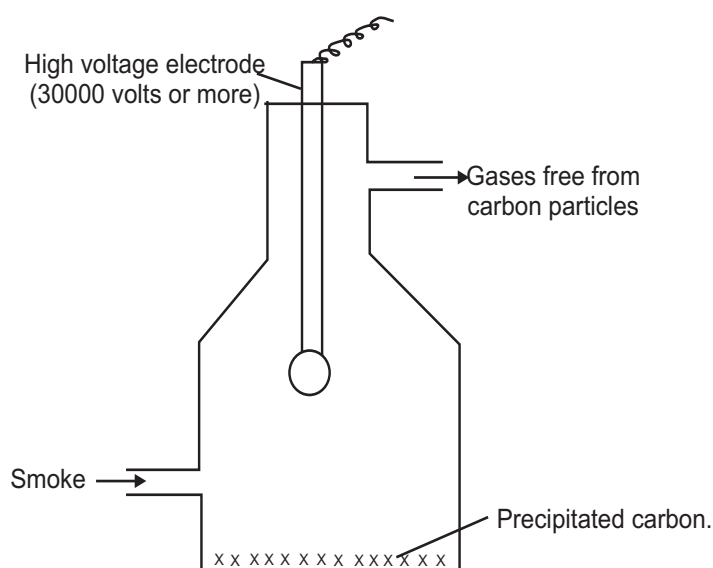

Fig.8.8 : Cottrell smoke precipitator
- (iii) **Smoke Precipitation :** Smoke particles are actually electrically charged colloidal particles of carbon in air. Precipitation of this carbon is done in a **Cottrell's Precipitator**. Smoke from chimneys is allowed to pass through a chamber having a number of metallic plates connected to a source of high potential as shown in Fig. 8.8. Charged particles of smoke get attracted to the oppositely charged electrode and get precipitated and hot purified air passes out.